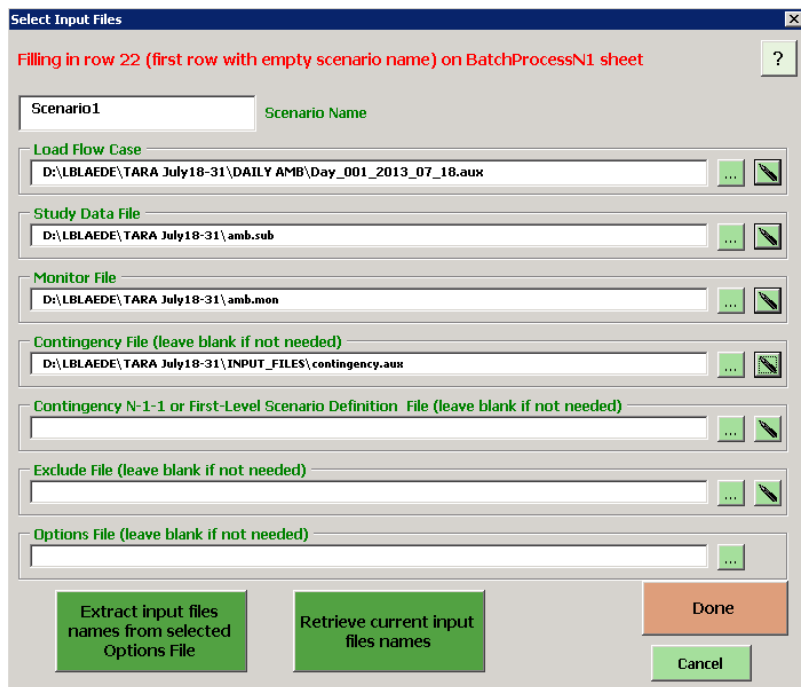

Fig. 3
5. If performing Transfer Limit Analysis for a range of cases, PERFORM the following to use the batch process function (See Fig. 3 below):